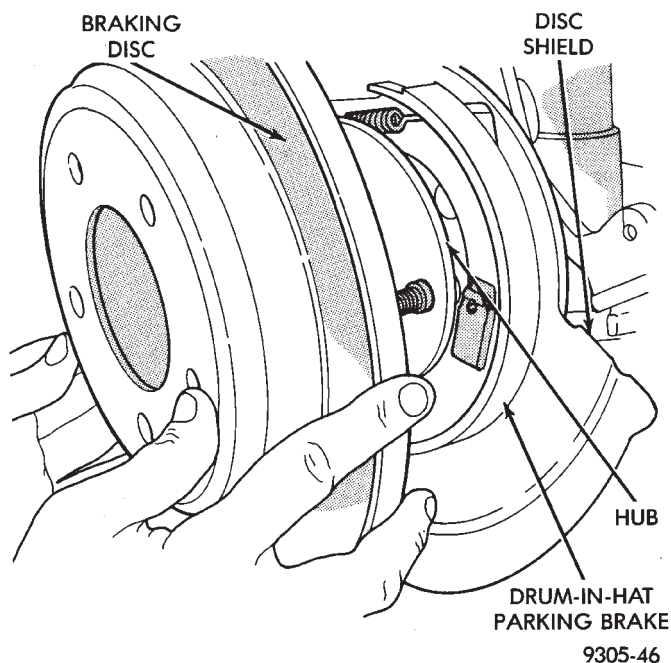

Fig. 7 Installing Rear Braking Disc
(1) Completely retract caliper piston back into piston bore of caliper assembly. This is required for caliper installation with new brake shoe assemblies.
(2) Lubricate both adapter abutments with a liberal amount of Mopar® Multipurpose Lubricant, or equivalent.
(3) Install the rear braking disc (rotor) on the hub, making sure it is squarely seated on face of hub (Fig. 7).